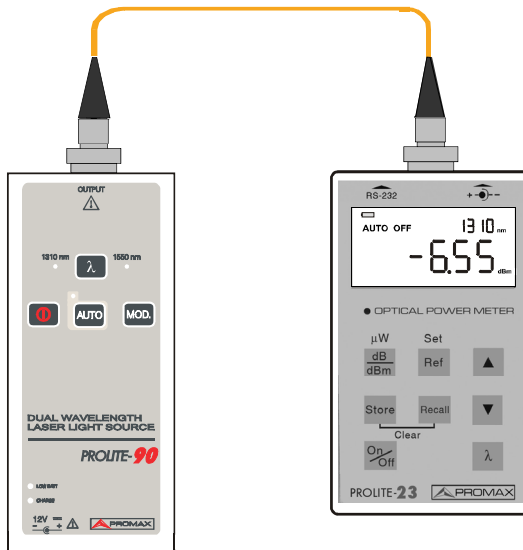

Figure 10.- Initial connection of connector insertion loss testing
1. **Initialisation:** Connect the **PROLITE-90** laser source to the **PROLITE-23** optical power meter using a suitable optical jumper cable with a length of 2 to 3 meters to measure the actual optical power of stabilized laser source, as shown in figure 10.